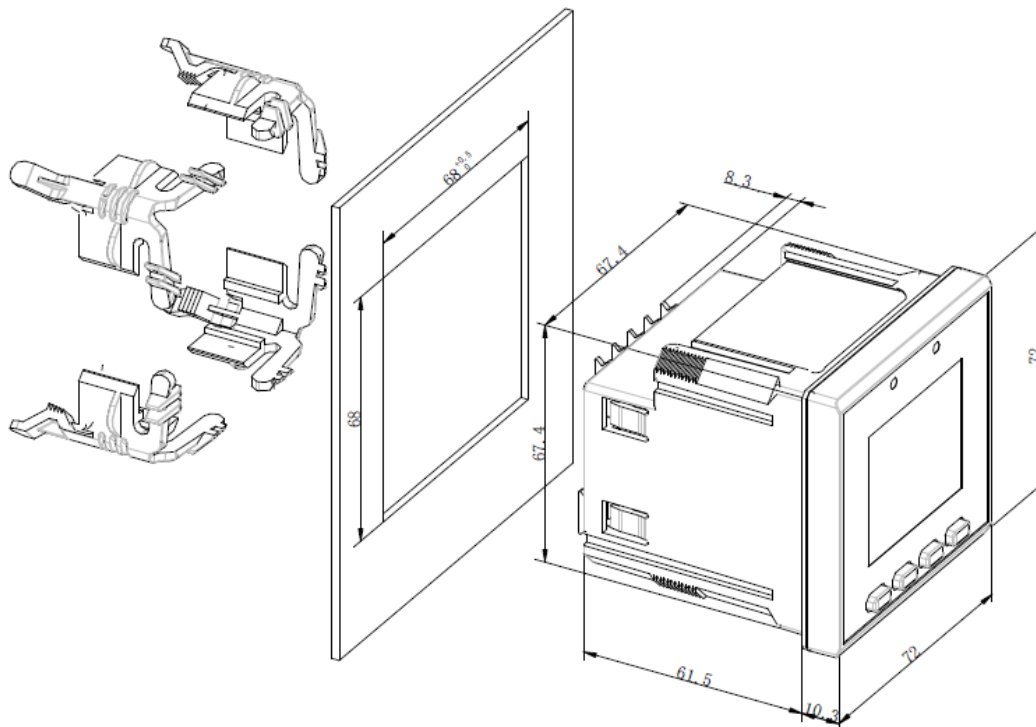

Figure 2-4 Panel Cutout
- Fit the meter through a 68mmx68mm cutout as shown in Figure 2-4